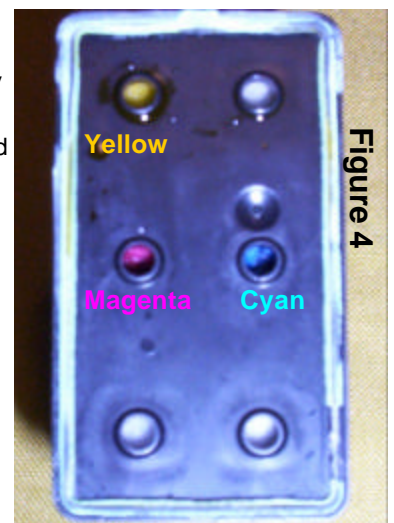

Figure 4
2. Once the cap is removed you will see the original fill ports located on the top of the cartridge. Figure 4 shows the colors of each fill port. The other 3 holes are used to align the cap properly on the top of the cartridge.